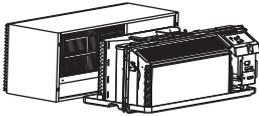

Fig.7
- Lift unit level and slide unit into wall sleeve until firmly against front of wall sleeve and secure with 4 screws and washers (supplied in the SLEEVE ASSEMBLY ) through the unit flange holes. (See Fig.7 and Fig.8)